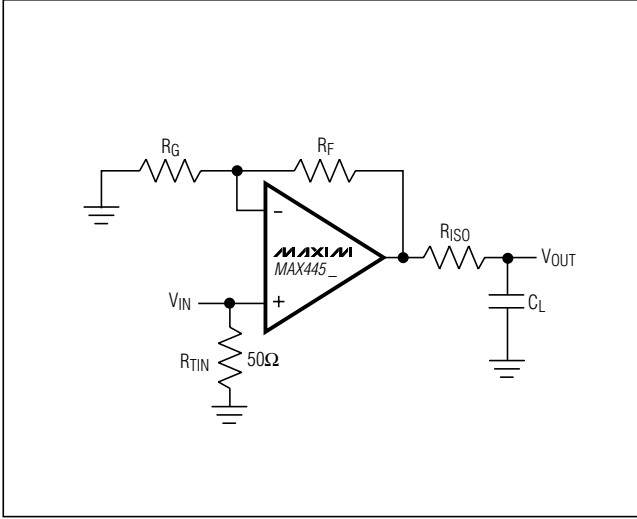
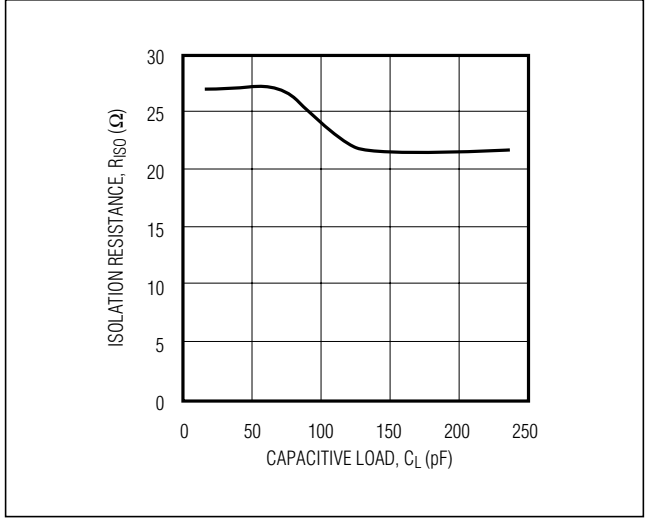
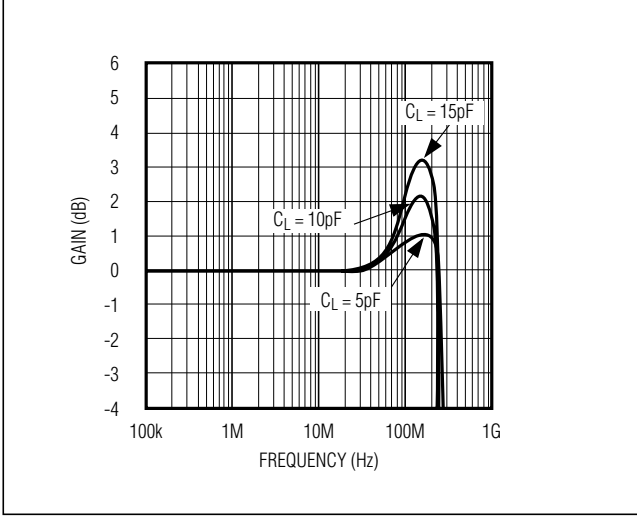

Figure 2. Driving a Capacitive Load Through an Isolation Resistor
Figure 3. Capacitive Load vs. Isolation Resistance
Figure 4. Small-Signal Gain vs. Frequency with Load Capacitance and No Isolation Resistor
The MAX4450/MAX4451 are optimized for AC performance. They are not designed to drive highly reactive loads, which decrease phase margin and may produce excessive ringing and oscillation. Figure 2 shows a circuit that eliminates this problem. Figure 3 is a graph of the optimal isolation resistor (RS) vs. capacitive load. Figure 4 shows how a capacitive load causes excessive peaking of the amplifier's frequency response if the capacitor is not isolated from the amplifier by a resistor. A small isolation resistor (usually 20Ω to 30Ω) placed before the reactive load prevents ringing and oscillation. At higher capacitive loads, AC performance is controlled by the interaction of the load capacitance and the isolation resistor. Figure 5 shows the effect of a 27Ω isolation resistor on closed-loop response.